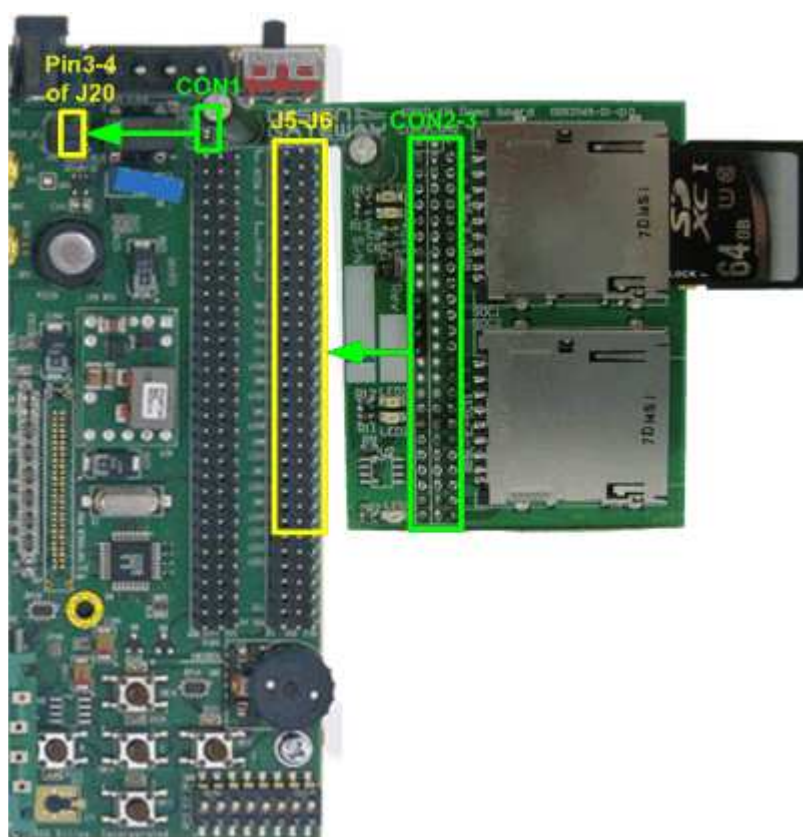

Figure 2 SDXC-IP demo board connection with ML505/506 board
- Connect SDXC-IP Demo board to ML505/506 board, as shown in Figure 2.